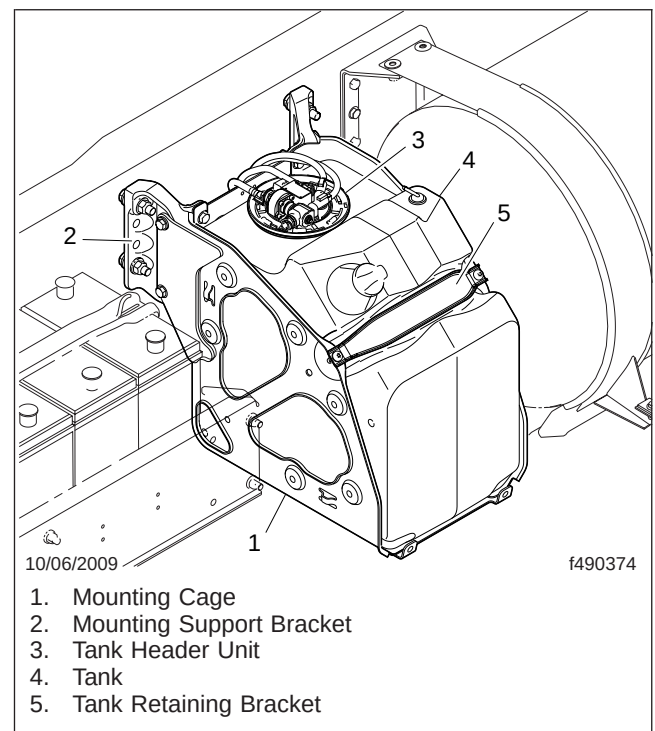

Fig. 5, 13- or 23-Gallon DEF Tank Mounting Assembly
12. Remove the two nuts that secure the tank retaining bracket to the tank mounting cage and remove the retaining bracket. See Fig. 5.